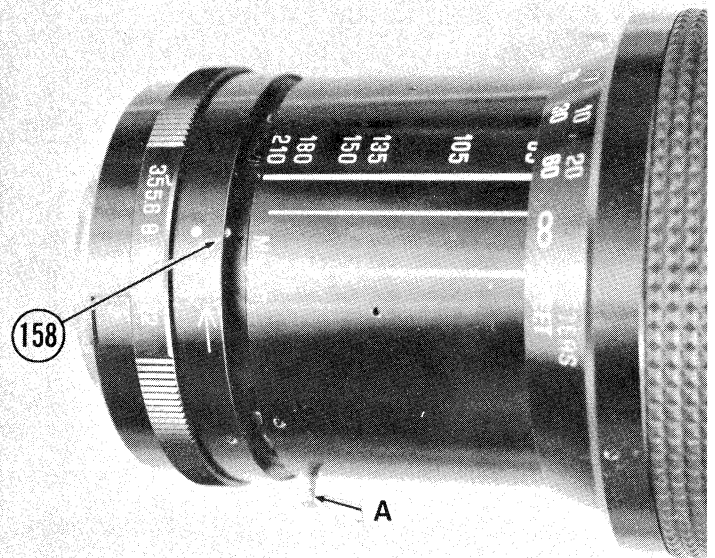

Fig. 55
- 7.2 Apply a spot of grease to Detent Ball (158) and place in hole in F/Stop Index Ring. (Fig. 55)
- 7.3 Slide Change Ring rearward to engage Detent Ball (158) in an area between Macro and Tele index lines. (Fig. 55)